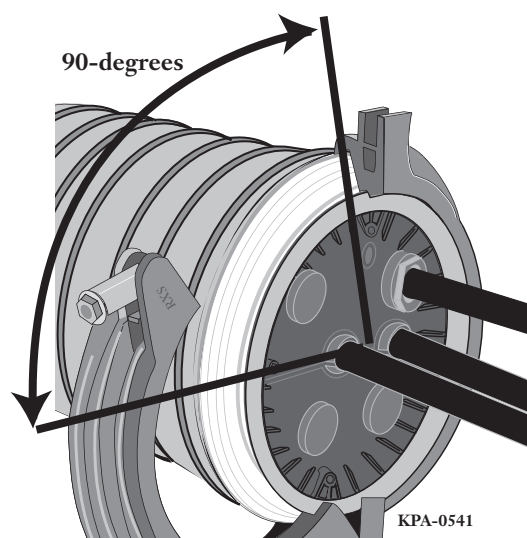

Figure 54 — Clamping Ring
- Step 4** Place the clamping ring over the flange of the canister and the sealing ring with the embossed lettering toward the outside of the closure. Ensure that both the sealing ring and the canister flange are within the clamping ring (Figure 54).
**NOTE:** The clamping ring seams must be oriented 90-degrees from the end cap seam (Figure 54).